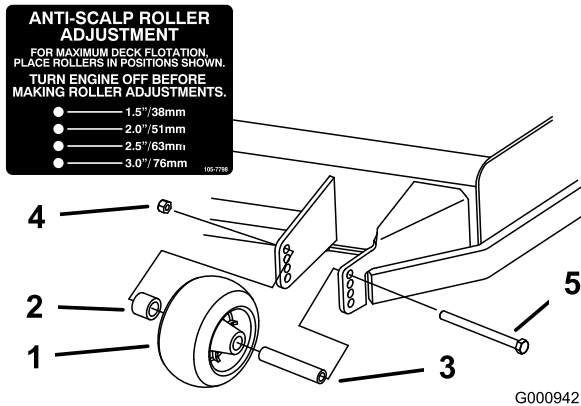
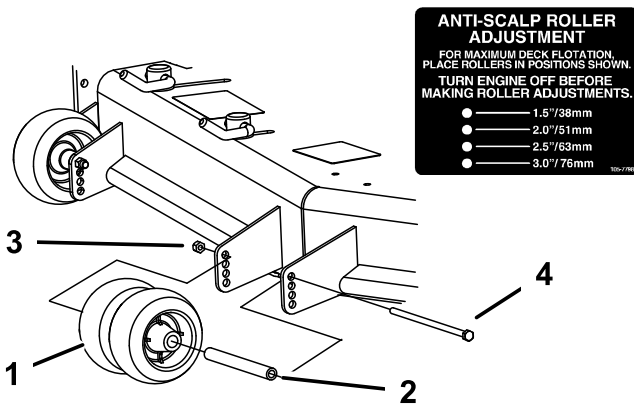
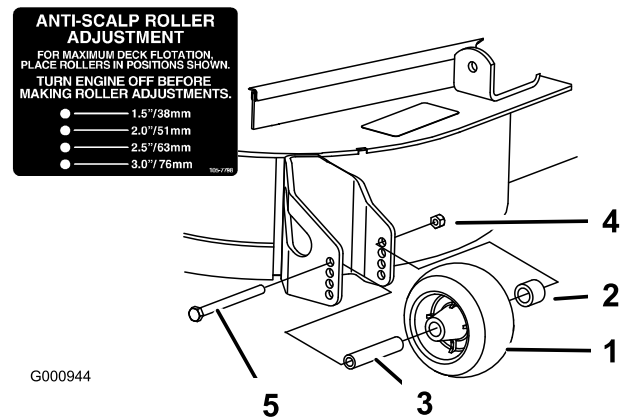

Figure 20
Figure 21
Figure 22
- After adjusting the height-of-cut, adjust the rollers by removing the flange nut, bushing, spacer, and bolt (Figure 20 , Figure 21 and Figure 22).
Note: The two middle rollers will not have a spacer (Figure 21).
- Install the flange nut, bushing, spacer, and bolt. Torque to 40-45 ft-lb (54-61 N-m) (Figure 20 , Figure 21 and Figure 22).